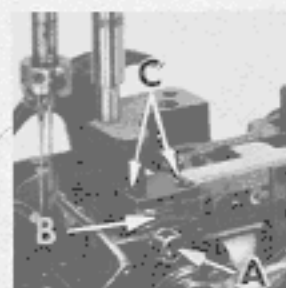

Fig. 8
To raise or lower the main feed dog, loosen allen screw (A, Fig. 8) and adjust the feed dog holder (B) to set the feed dog at specified height. Retighten screw (A).
The main feed dog should have equal clearance on all sides of feed slots in the throat plate at maximum feed travel. To adjust the main feed dog across-the-line-of-feed, loosen screws (C, Fig. 8) and position feed dog as required. Retighten screws (C). To adjust main feed dog in-line-of-feed, loosen nut (A, Fig. 9) and move feed bar as required. Retighten nut.